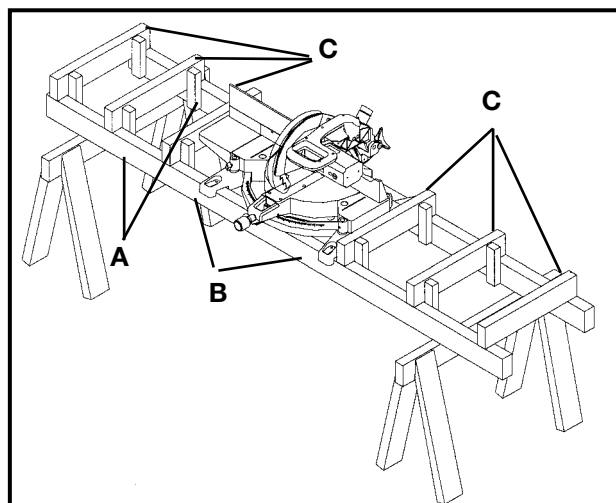

Fig. 40
One of the unique features of the miter saw is the ease of constructing work supports. Fig. 40 illustrates the miter saw mounted to two standard 2 x 4's (A). Fasten the grooves in the two mounting legs (B), to the 2 x 4's, using four screws through the four holes in the mounting legs. The length of the 2 x 4's (A) can vary, depending on preference. The distance from the top of the 2 x 4's (A) to the compound miter saw table 3 1/4". Standard 2 x 4's (C) can then be fastened to the top of the 2 x 4's (A). The top of the 2 x 4's (C) will then be the same height as the miter saw table, or minor adjustments can easily be made depending on the height of the 2 x 4's. This method will provide support for long workpieces using standard 2 x 4's instead of constructing an expensive, complicated work support.